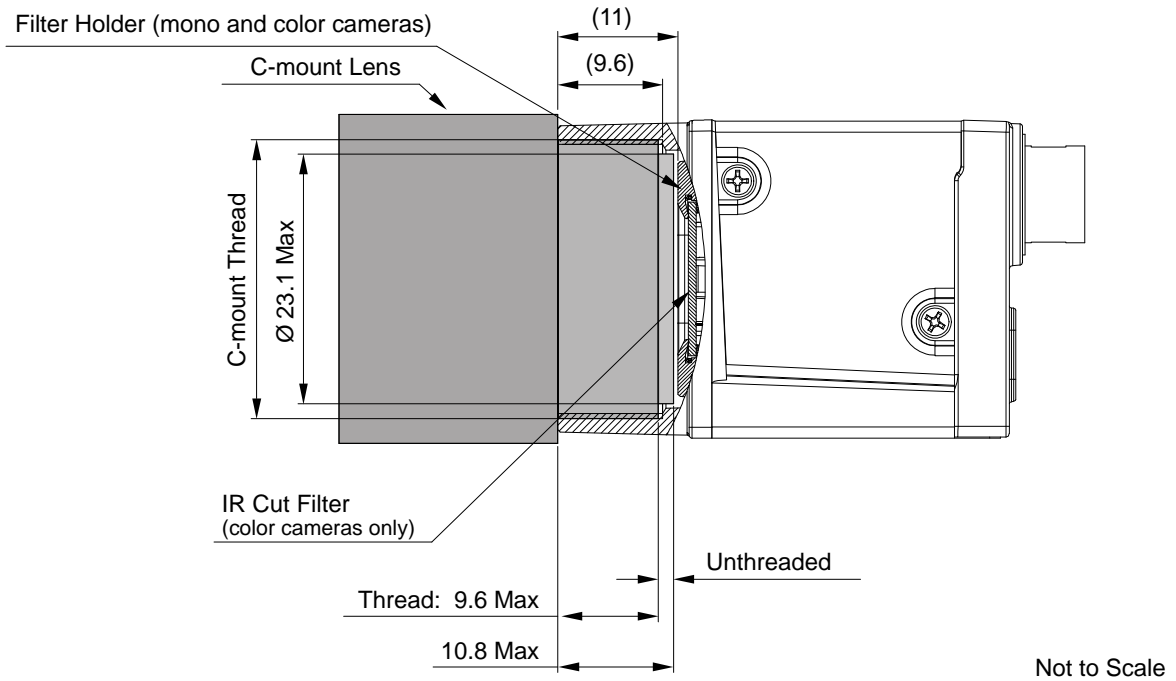

Fig. 21: Maximum Lens Thread Length (Dimensions in mm) for Cameras with the C-mount Lens Adapter
- Camera with C-mount lens adapter (see Figure 21):